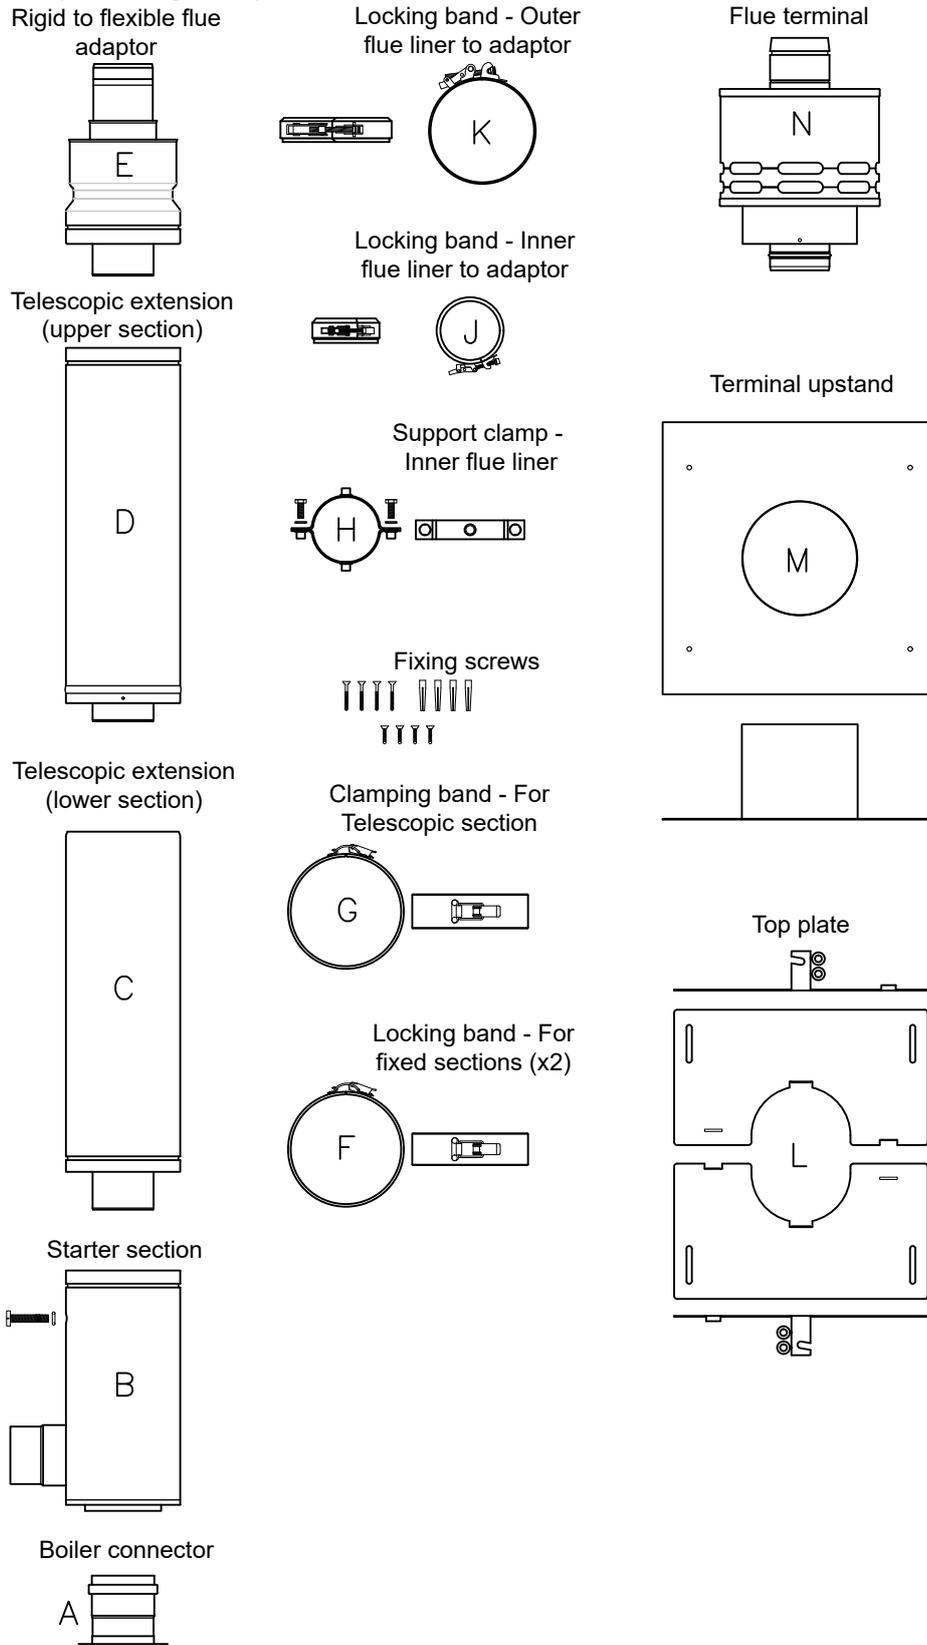

Figure 3-1: Pack 1 contents
1. 2 x Locking band for fixed sections - Item F in Figure 3-1. White colour for connecting flue sections that butt together.
2. 1 x Clamping band for the telescopic section - Item G in Figure 3-1. White colour. Label on the inside saying 'FOR ADJUSTABLE SECTION'.
3. 1 x Locking band for the Inner flue liner to adaptor - Item J in Figure 3-1. Metallic finish.
4. 1 x Locking band for the Outer flue liner to adaptor - Item K in Figure 3-1. Metallic finish.
- 1 x Support clamp for the Inner flue liner - Item H in Figure 3-1.
The third and fourth locking bands are constructed from unpainted stainless steel. One is to secure the outer flexible flue liner to the adaptor (refer to item K in Figure 3-1) and the other is to secure the inner flexible flue liner to the adaptor (refer to item J in Figure 3-1).
The flue kit includes a Black coated terminal with upstand and is designed to be fixed (using the screws provided) to the top of a masonry chimney. Refer to items M & N in Figure 3-1.
Pack 1 - Flue Components (Refer to Figure 3-1).
- Refer to item C of Figure 3-1.
- Fit one of the locking bands (item F of Figure 3-1) provided over the joint between the flue starter section and the lower section of the telescopic extension.
- Refer to item D of Figure 3-1.
- Temporarily secure the sliding joint using the intended clamping band. Refer to item G of Figure 3-1.
The clamping band for the adjustable section (item G of Figure 3-1) is labelled for easy identification.